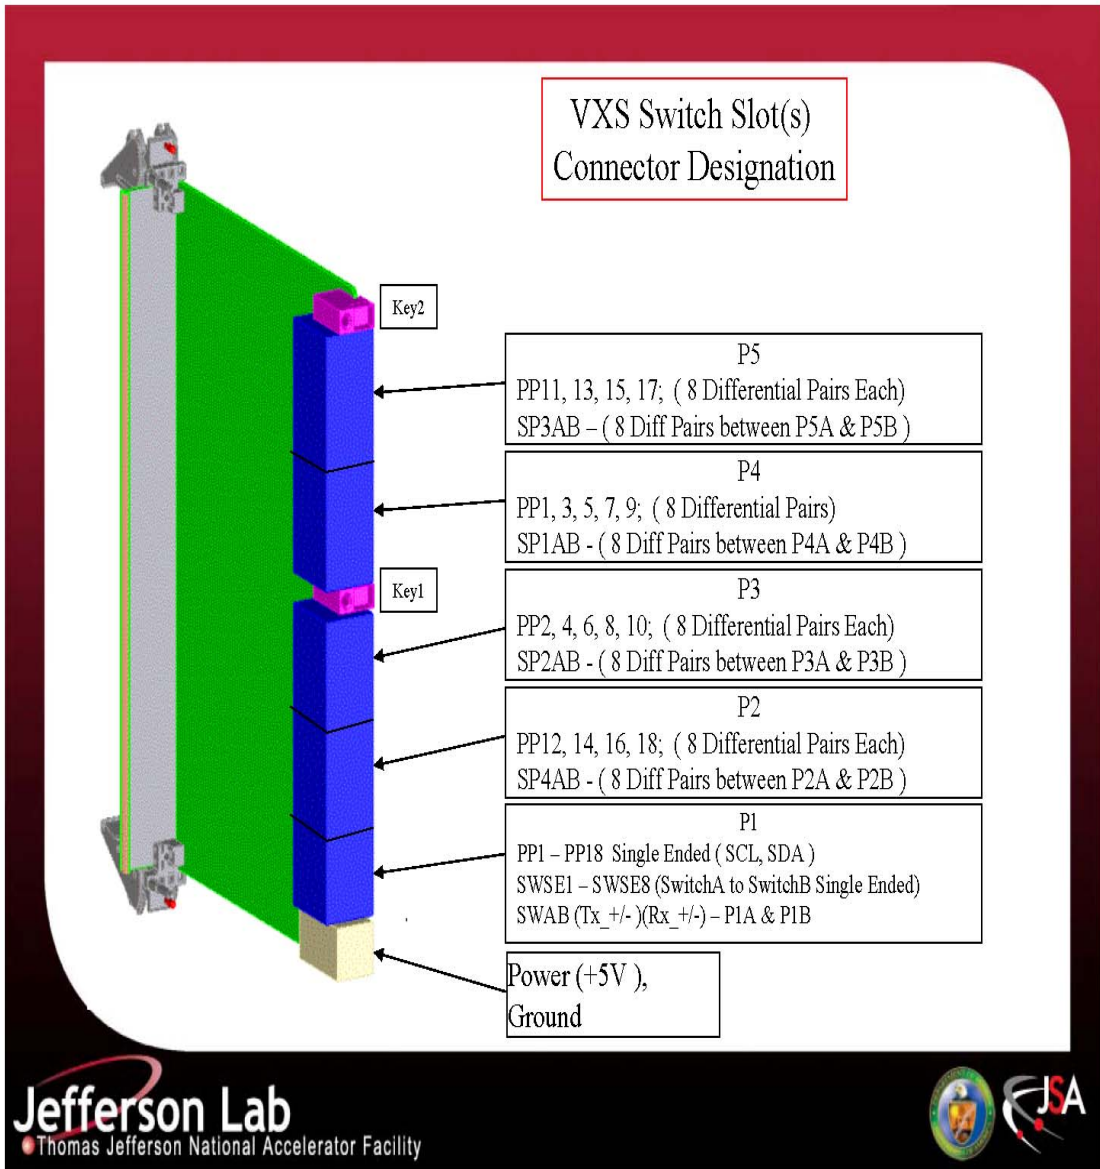

Figure 1 – VXS Switch
3.0	Brief Function Description Figure 1. VXS Switch Module Diagram Figure 2. Functional Block Diagram Specifications
A VITA 41 switch slot module is shown in Figure 1. Note the high speed multi-gigabit connectors used for the point to point signals from payload modules to the switch card. The switch slot module only receives +5V power from the VXS backplane, and there are two mechanical alignment keys that are required for the module that facilitate the proper mating between the board connectors and the backplane connectors.